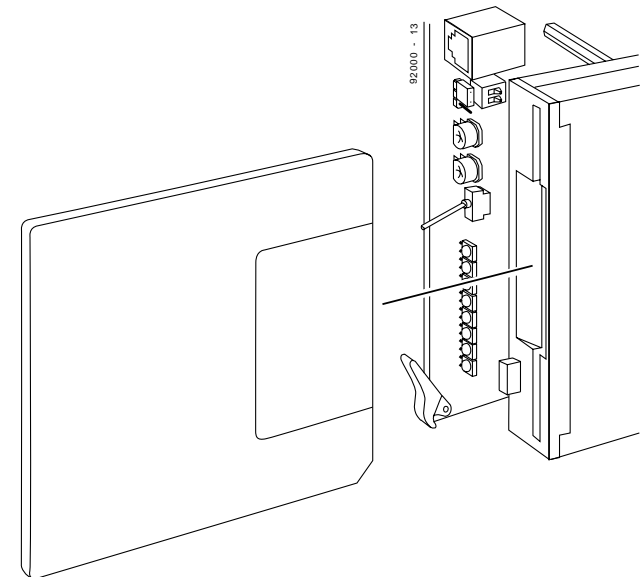

Figure 2-6 INSTALLING THE SYSTEM DISK
- Insert the software disk into the disk drive (Figure 2-6).